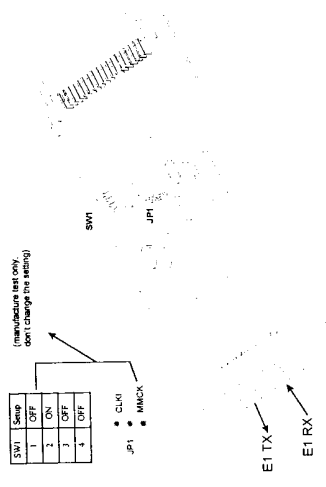

Fig 4-10 NS-620M1, G.703, balanced, 120 Ohm interface module
- M1: G.703 Balanced Terminal Block interface.(Fig.4-10)
- M1: G.703 Balanced Terminal Block (2,048Kbps, add-drop) Fig.4-10